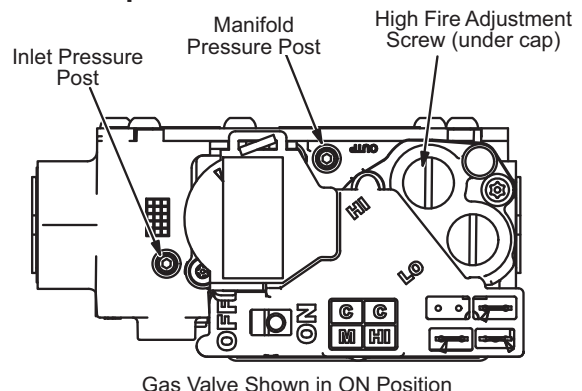

Figure 45. Gas Valve
6. Move gas valve switch to OFF. See **Figure 45**.
8. Move gas valve switch to ON. See **Figure 45**.
An inlet post located on the gas valve provides access to the supply pressure. See **Figure 45**. Back out the 3/32 hex screw one turn, connect a piece of 5/16 tubing and connect to a manometer to measure supply pressure. See **Table 18** for supply line pressure.
1. A manifold pressure post located on the gas valve provides access to the manifold pressure. See **Figure 45**. Back out the 3/32 Hex screw one turn, connect a piece of 5/16 in. tubing and connect to a manometer to measure supply pressure.
6. Repeat on high fire and compare to value given in **Table 18**. If necessary, make adjustments. **Figure 45** shows location of high fire and low fire adjustment screws.